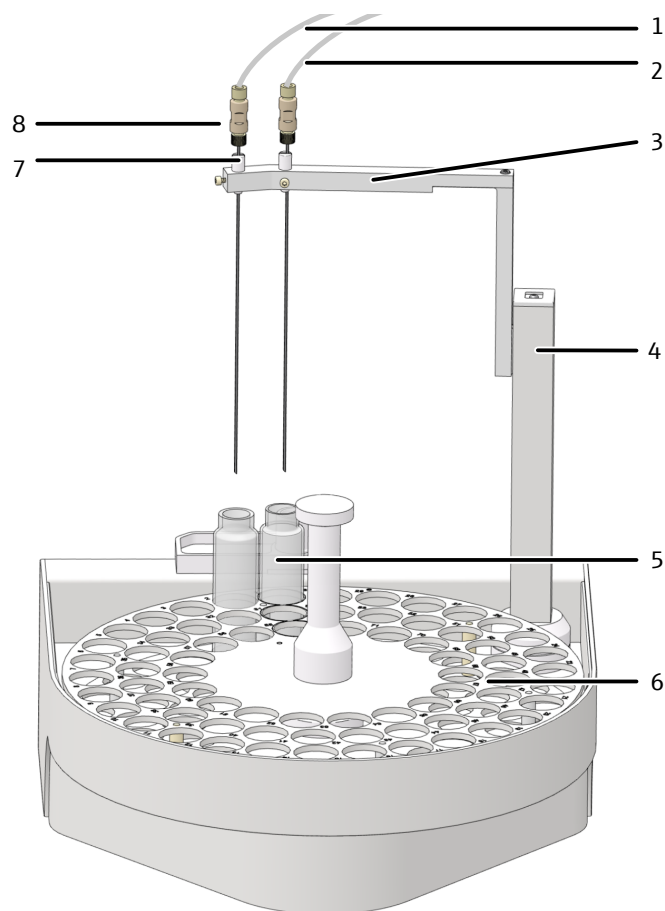

Fig. 30 Layout of the AS vario autosampler
- ▶ For NPOC measurement with parallel purging: Insert one canula each with sleeve in both positions of the canula holder (Fig. 30  52).